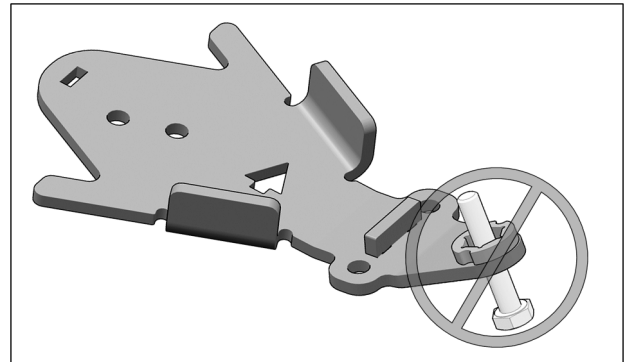

Fig. 13
**CAUTION:** Make sure that the bolt is inserted in the right direction. See Fig. 13